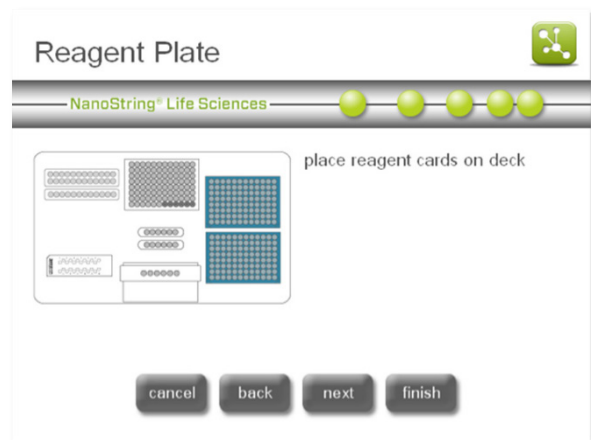

Figure 19: The 'Reagent Plate' screen.
7. The 'Reagent Plate' screen will appear (Figure 19). Remove the clear plastic lids and place the prep plates on the deck. Make sure plates are oriented with the label facing the operator and that they are flush with the deck surface by aligning the plate on the positioning pin and pressing down firmly near the plate catch (Figure 20). If running 6 or fewer lanes, only the front plate needs to be loaded onto the deck. Press **next**.